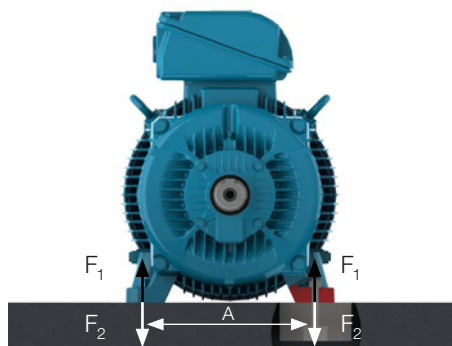

Figure 6.2 – Motor installed on a concrete base
The foundation stresses can be calculated by using the following equations (see Figure 6.2):
- Concrete bases: are most used for large-size motors (see Figure 6.2);